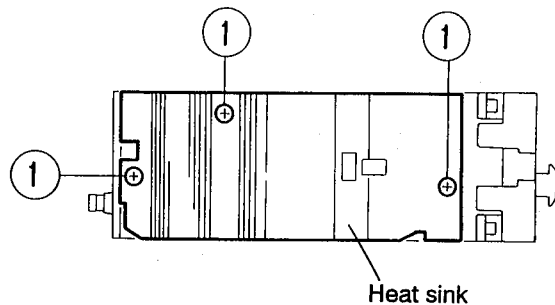

Fig. 2-3
■ Removing the heat sink (See Fig. 2-3)
2. Remove three screws ① retaining the heat sink.